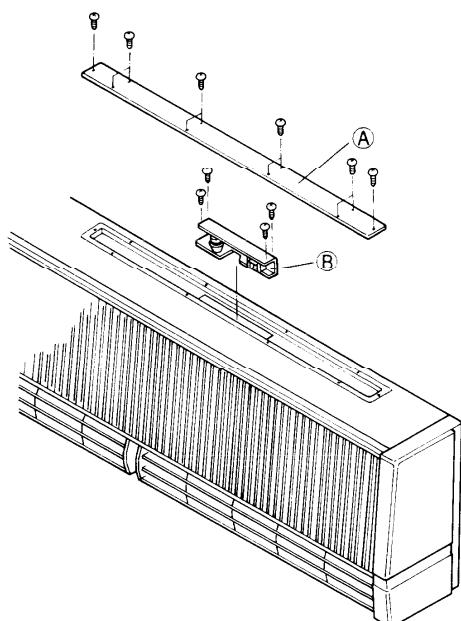

Fig. D-8
- 1) Remove the cover top plate (A) on the unit by unscrewing ten screws.
- 2) Remove the lead wire and four screws as shown in Fig. D-8 to pull up the mounting plate for the heater thermal protector (B) from the unit.
- 3) The heater thermal protector can be checked and changed in this condition. (See Figure D-8.)